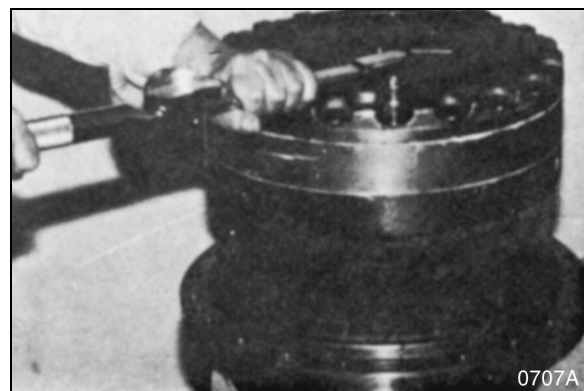

Figure 94
9. Apply sealing tape or fluid to the socket plug (30, Figure 13) and tighten the plug into the center of the drive sprocket. Torque the plug to 6 kg•m (43 ft lb). See Figure 94.